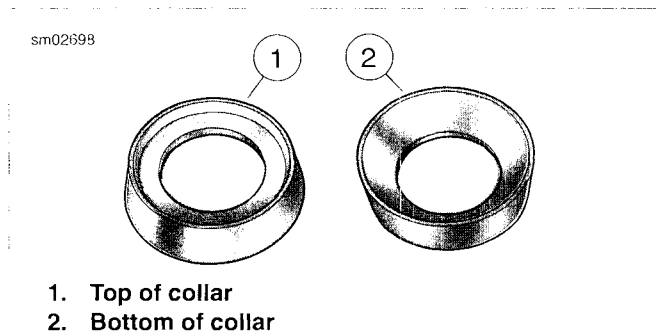

Figure 7-45. Collar
See Figure 7-45. In next step, be sure top of collar (1) is facing up.